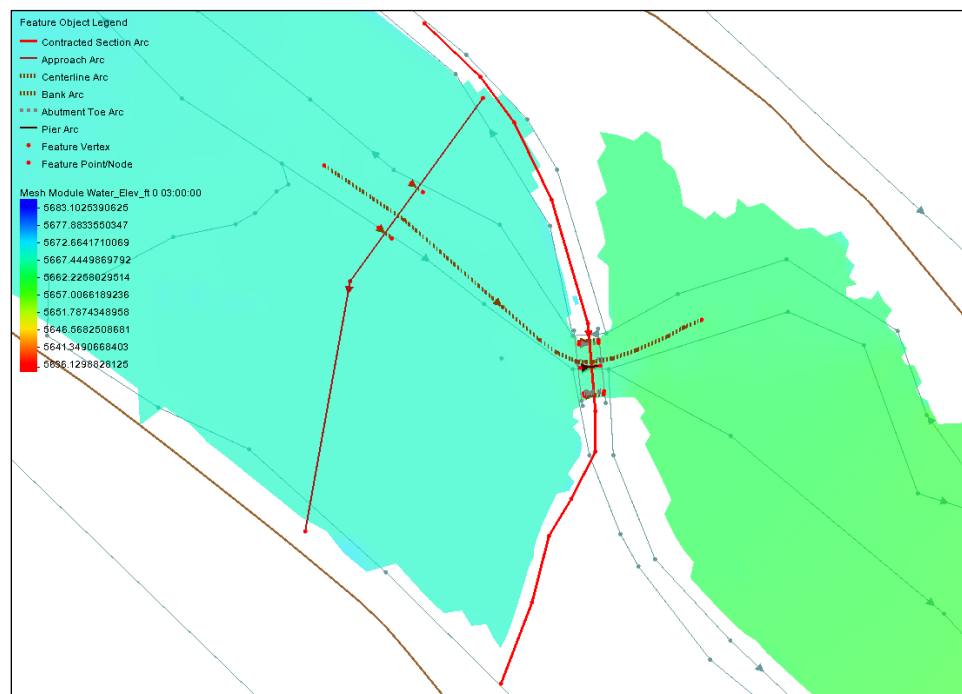

Figure 9 All of the bridge scour arcs visible
8. **Zoom**  in to the area shown in Figure 9.
The project should appear similar to Figure 9.